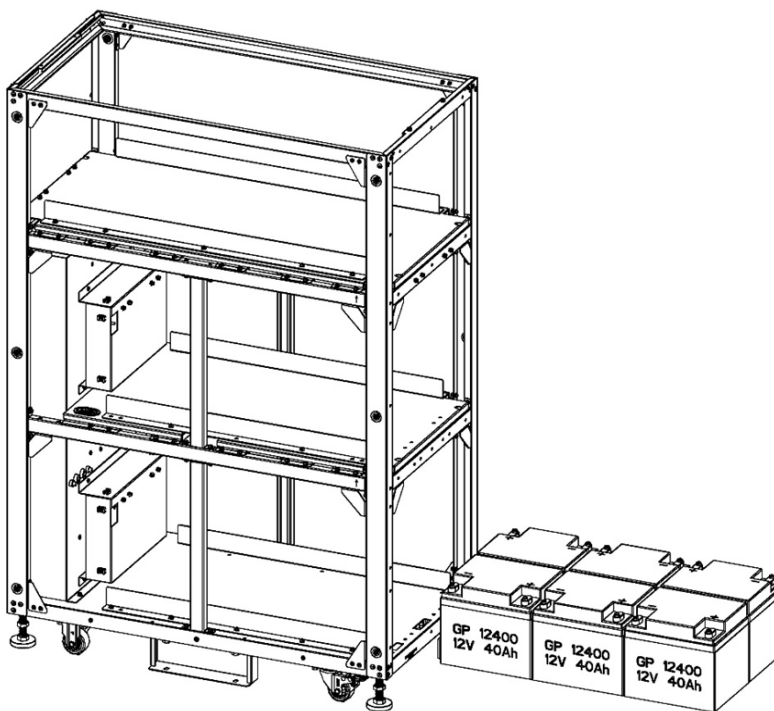

Figure 5-36B
4. Install 6 battery packs in layer 1 (Figure 5-36B).